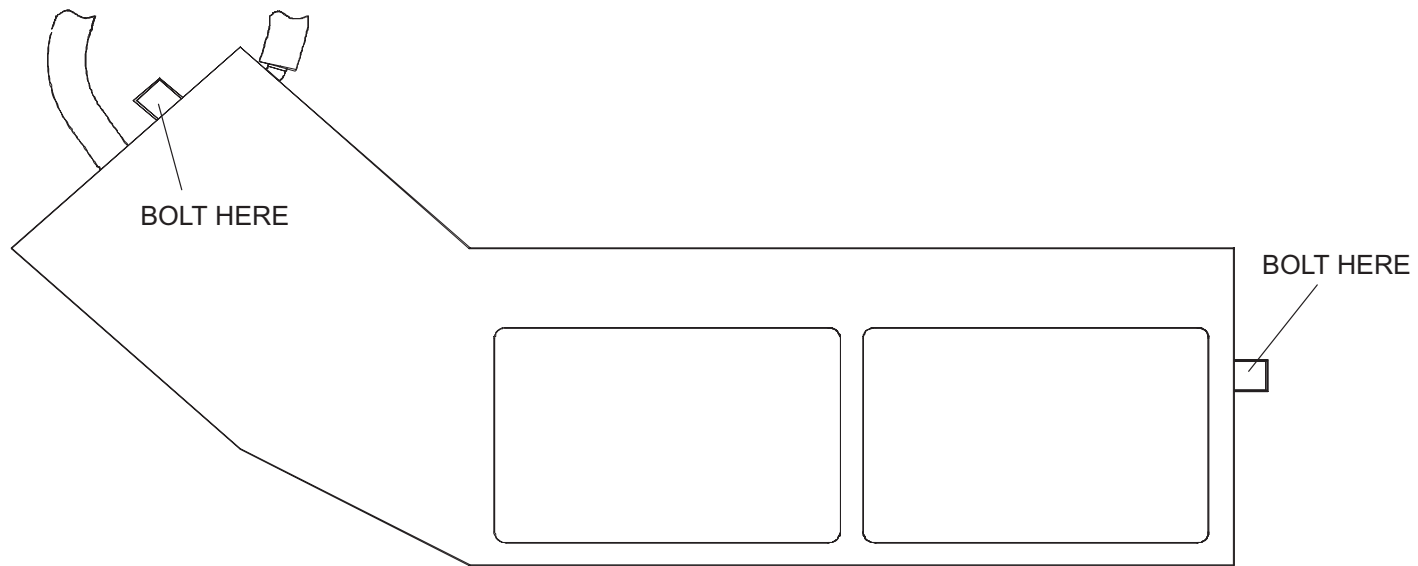

FIGURE 52 HEAT EXCHANGER MOUNTING
21. Secure the Heat Exchanger to the scan frame. Refer to Figure 52.